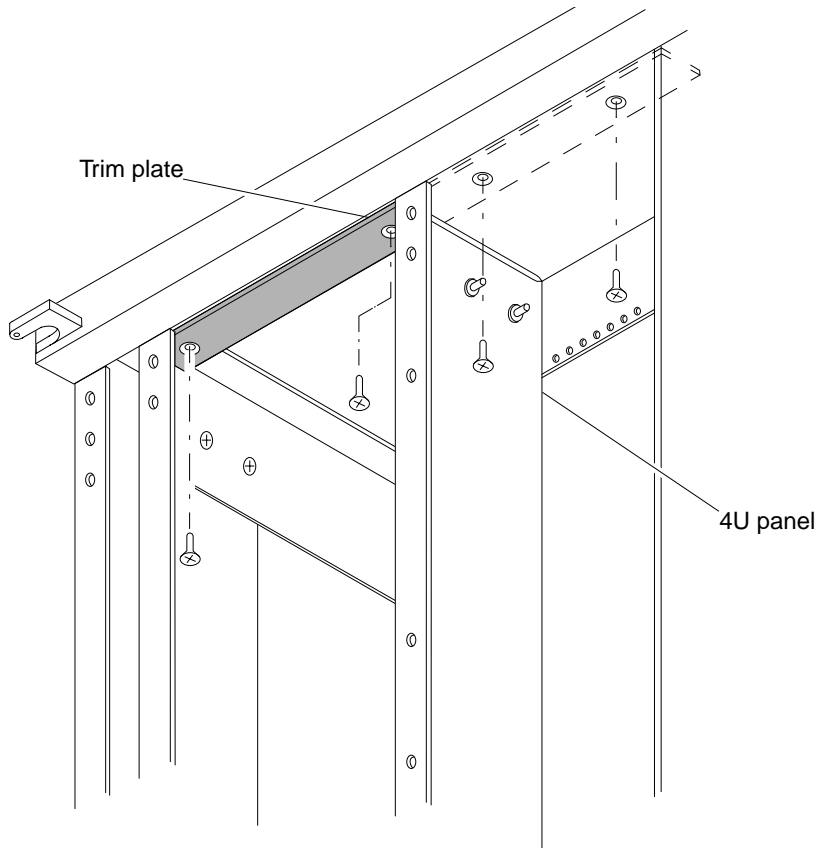

FIGURE 8 Trim Plate Installation—Typical
3. Install the trim plate on one side only with two M4x10 flathead screws in the 4U panel (FIGURE 8).
7. Install two M4x10 flathead screws in the remaining holes of the trim plate and the upper horizontal rails. Leave the screws loose (FIGURE 8).